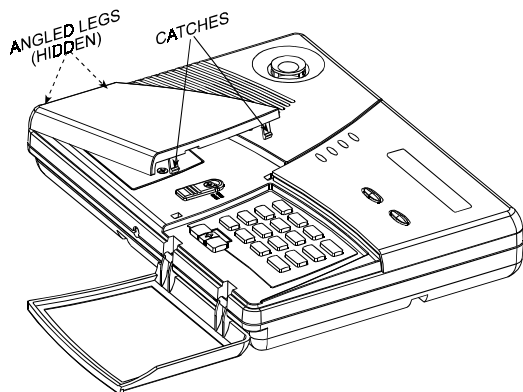
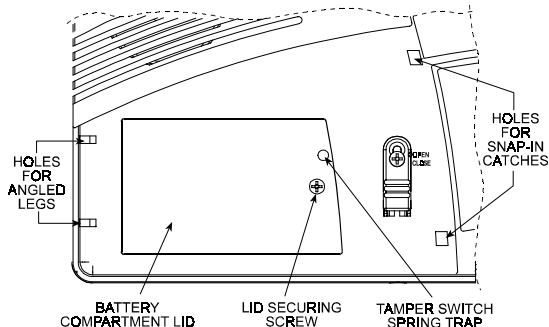
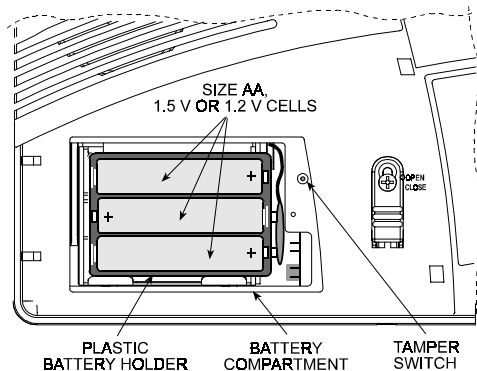

Figure 10. Removing the Left Hand Cover
Figure 11. Battery Compartment Lid
Figure 12. Battery Compartment and Battery Holder
- D. Swing the cover up as shown in Figure 10, then pull free the angled legs at the left and put the cover away. The inner lid will now be in full view (see Figure 11).
- E. Remove the screw that secures the battery compartment lid (Fig. 11), swing the lid up and pull it away. You have thus gained access to the battery holder (see Fig. 12).